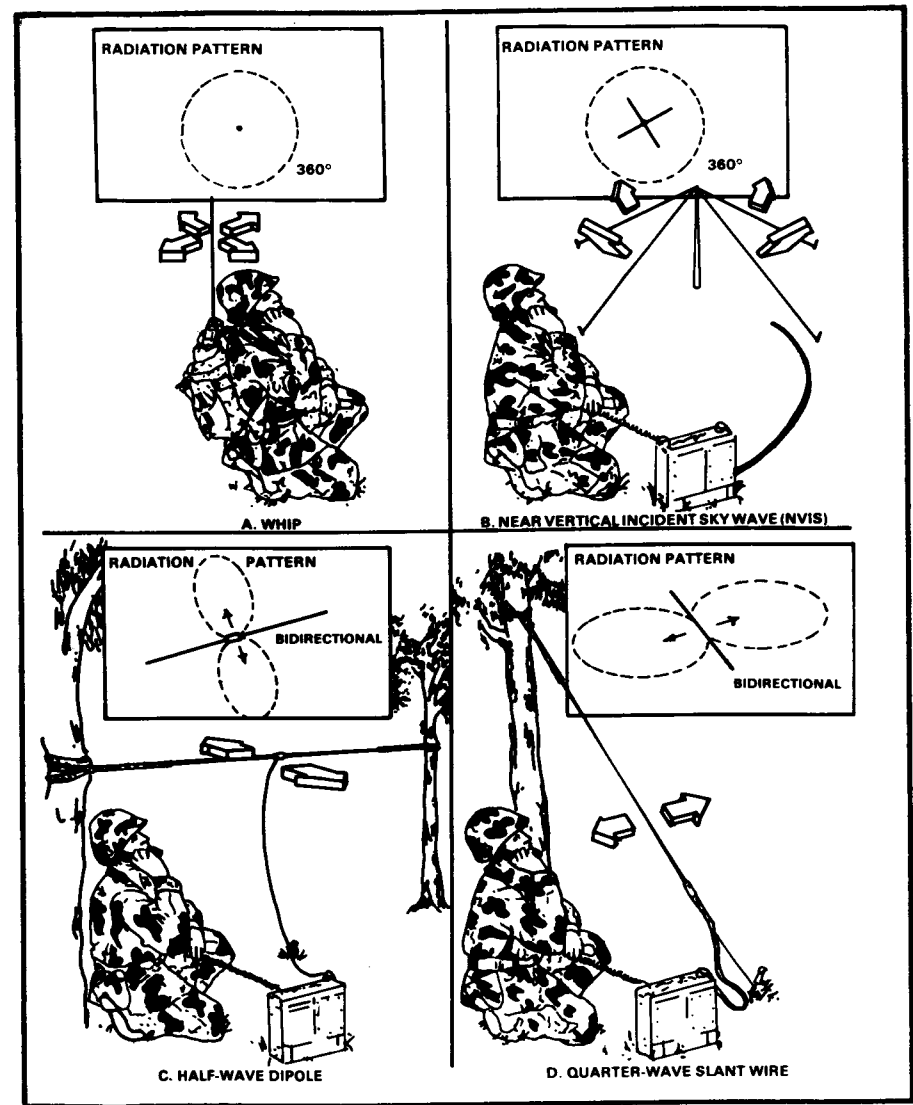

Figure 3-2. Antenna radiation patterns.
c. When using an antenna with directional characteristics, orient the antenna so that it is most sensitive in the direction of the other station(s). Figure 3-2 shows the radiation pattern of the antennas.